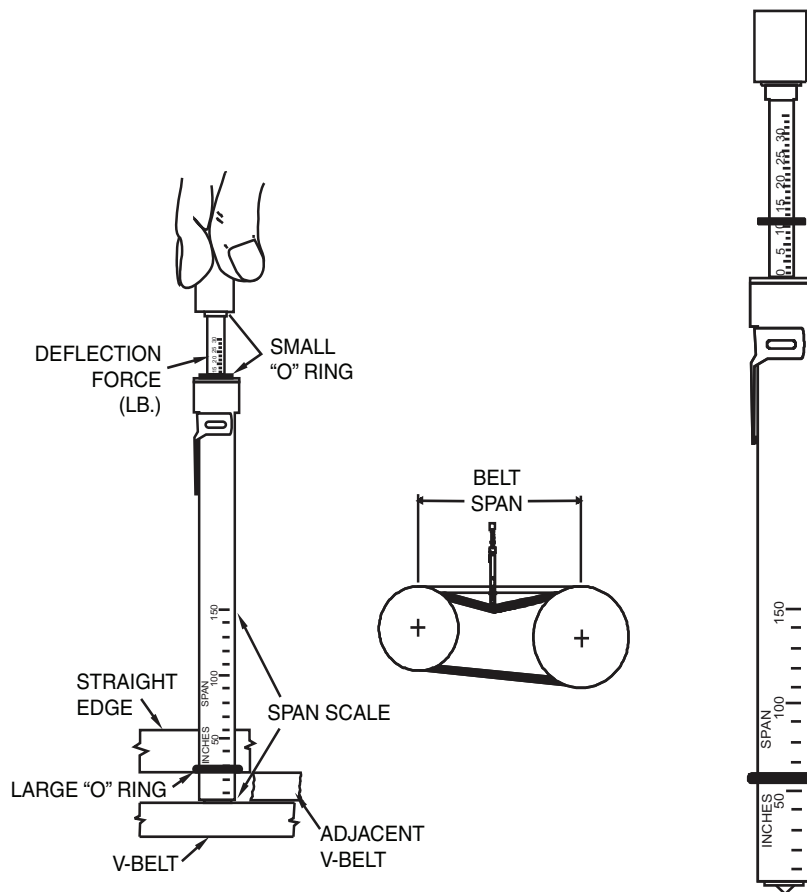

Fig. 23 — Fan Belt Tension
1. Measure the belt span (see Fig. 23).